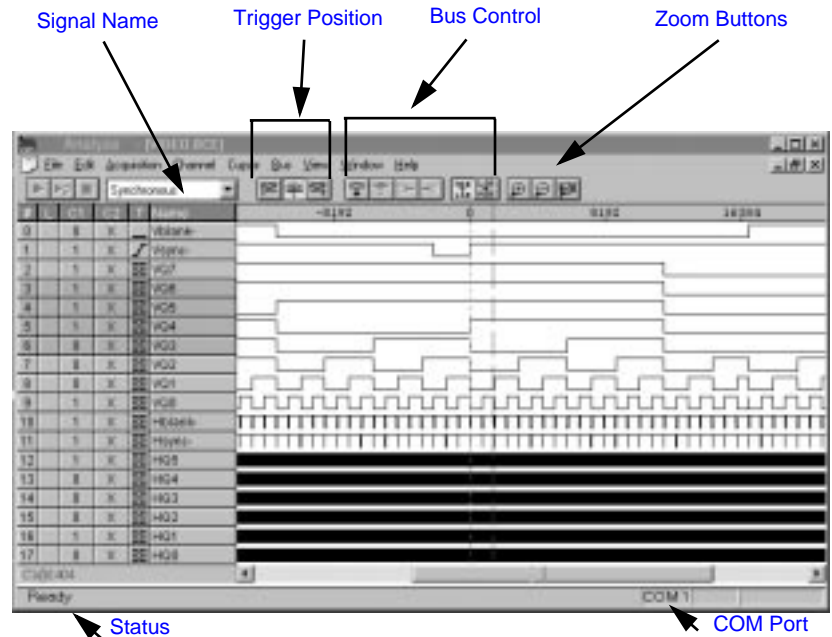

Figure 7-5. Analyze Window
Once the acquisition parameters are set, click the Run button (red triangle) in the upper left to begin acquisition. At this point the analyzer will begin capturing data and after the initial 64K samples are acquired, sampling will continue until either the trigger pattern is recognized or the stop button (black square) is pressed (see Figure 7-5).
3. **Invoke the Analyze window.** Double click the “Analyze” icon located in the Designer Series program group. The Analyze window is displayed (see Figure 7-5 on page 65).